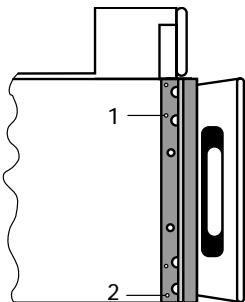

fig. 9
- Remove the protective frame by removing screws 1 and 2 (see fig. 9). Remove the frame and replace screws.